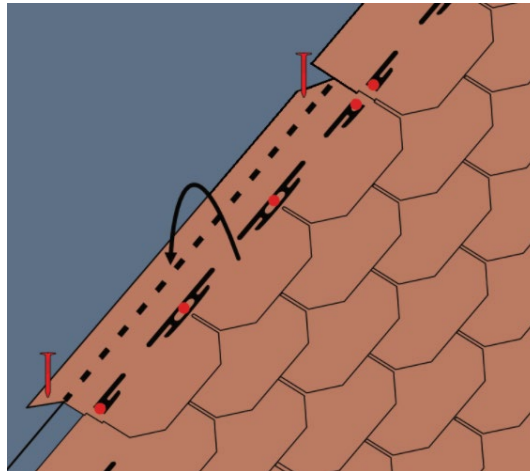

Fig. 9 - Shingles installation at the ridge
- The last row of bituminous shingles must protrude above the ridge line; the excess part will be folded over the ridge line and must be fixed with minimum two nails - Fig. 9.